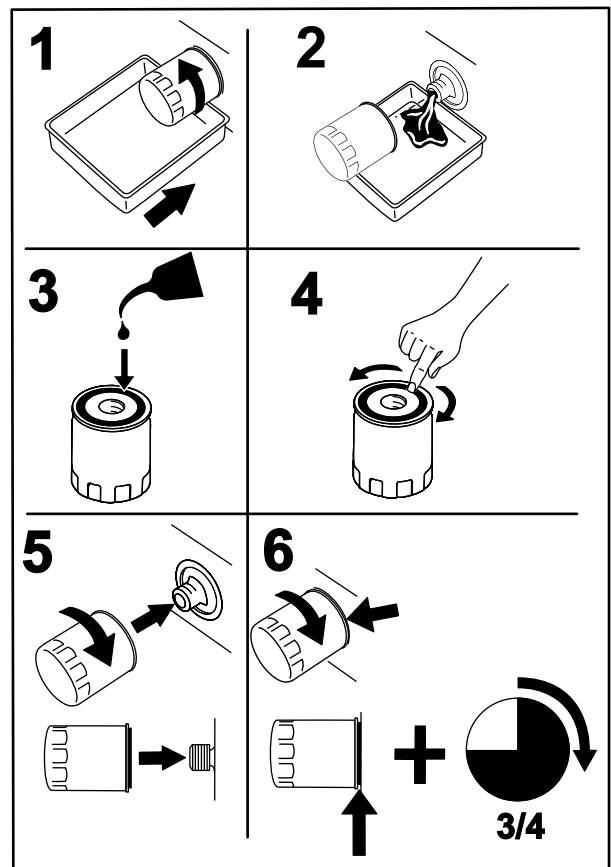

Figure 41
- Change the engine oil filter (Figure 41).